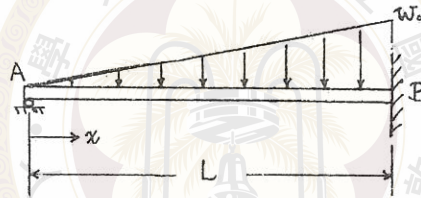

Fig 4
4. The beam is subjected to the distributed loading shown in Fig. 4. Assume that EI is constant, where E is the Young's modulus and I is the second moment of area of the transverse section with respect to the neutral axis.